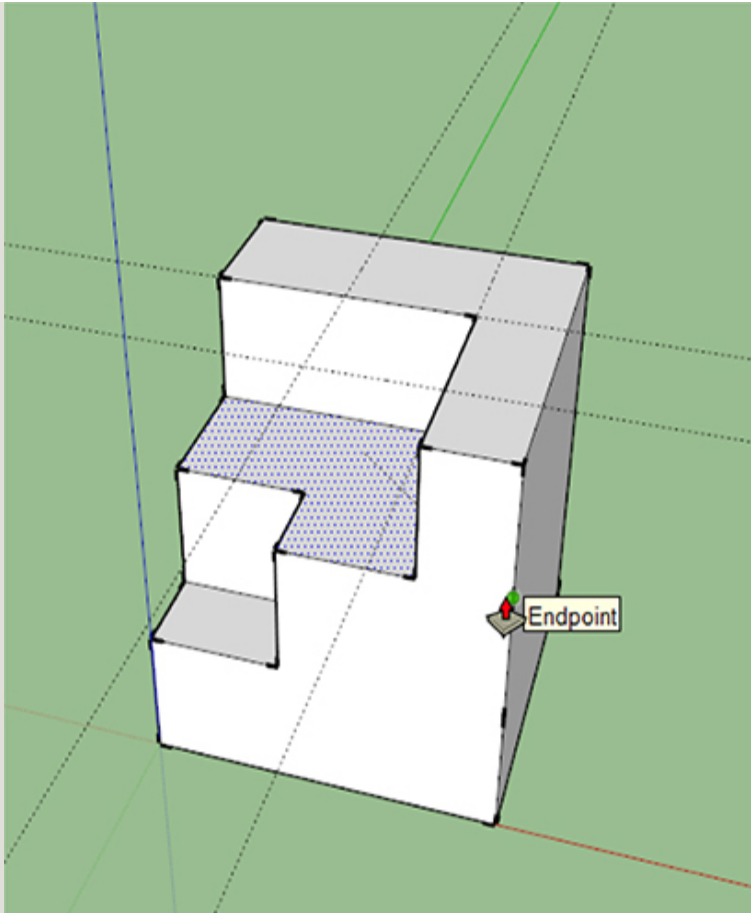

Figure 3-10 Push/pull the top planes down and inference match them to the division endpoints.
7. Push/pull the top planes down, hovering the cursor over the division endpoints (Figure 3-10). The parts will snap to them. This is called *inference matching*.